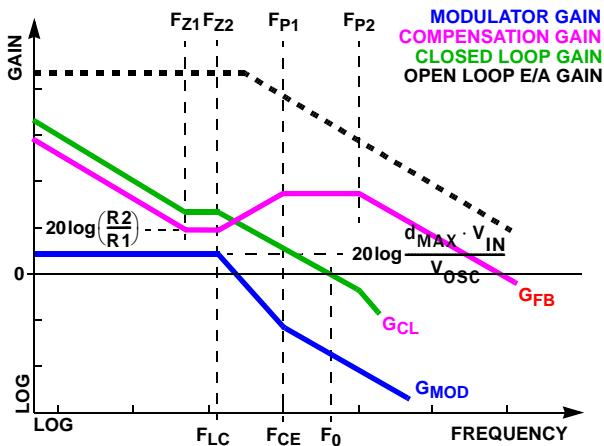

FIGURE 25. ASYMPTOTIC BODE PLOT OF CONVERTER GAIN
Figure 25 shows an asymptotic plot of the DC/DC converter's gain vs frequency. The actual Modulator Gain has a high gain
peak dependent on the quality factor (Q) of the output filter, which is not shown. Using the above guidelines should yield a compensation gain similar to the curve plotted. The open loop error amplifier gain bounds the compensation gain. Check the compensation gain at  $F_{P2}$  against the capabilities of the error amplifier. The closed loop gain,  $G_{CL}$ , is constructed on the log-log graph of Figure 25 by adding the modulator gain,  $G_{MOD}$  (in dB), to the feedback compensation gain,  $G_{FB}$  (in dB). This is equivalent to multiplying the modulator transfer function and the compensation transfer function and then plotting the resulting gain. A stable control loop has a gain crossing with close to a -20dB/decade slope and a phase margin greater than 45°. Include worst case component variations when determining phase margin. The mathematical model presented makes a number of approximations and is generally not accurate at frequencies approaching or exceeding half the switching frequency. When designing compensation networks, select target crossover frequencies in the range of 10% to 30% of the per-channel switching frequency,  $F_{SW}$ .